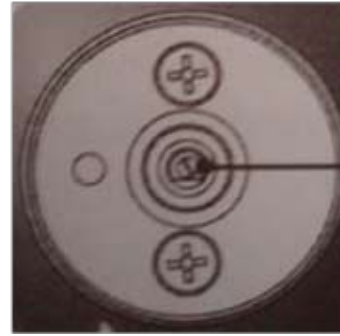

Figure 2
### Minimum flow of non-valved cooking hob taps (Figure 2)
- Insert a small screwdriver into the shaft of the gas valve and adjust the internal screw until the correct low flame is obtained; see figure 2